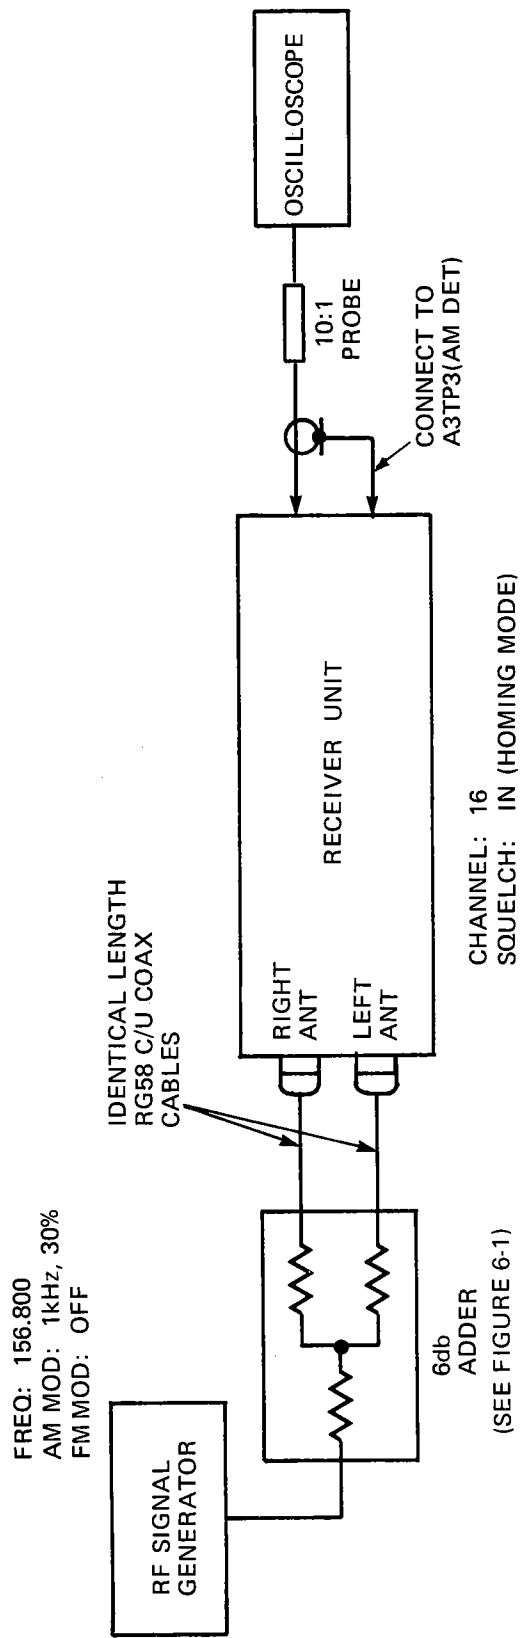

Figure 4-2. AGC Range and Homer Heading Test Set-Up
- (a) Connect test equipment to receiver unit as shown in figure 4-2.
- (a) Set up test equipment as detailed in figure 4-2.
- (1) Boards 1A1, or 1A3 have been repaired or replaced.
- (2) Any part of the antenna system has been repaired or replaced.
- (a) Set up test equipment as shown in figure 4-2.